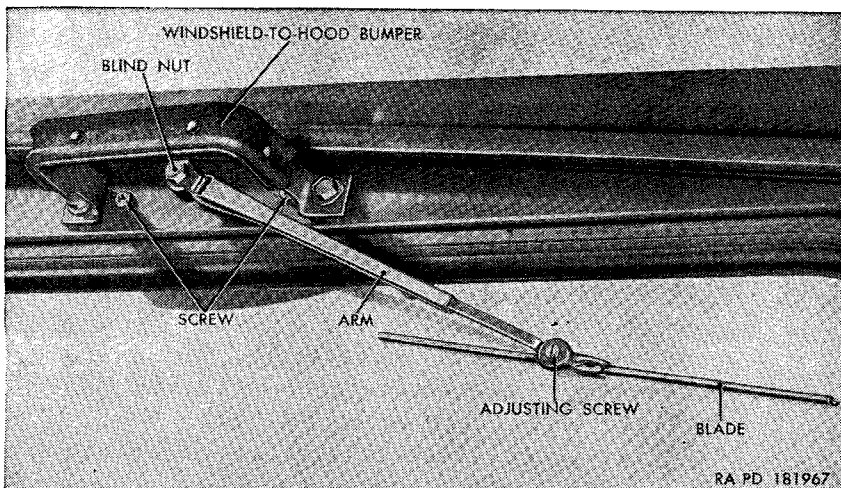

Figure 186. Windshield wiper blade and adjustable arm assemblies—installed.
a. *Windshield wiper blade assembly* (fig. 186).
- (1) *Removal.* Lift up on the windshield wiper adjustable arm assembly. Lift the lower end of the windshield wiper blade assembly to unlock the blade from the arm. Remove the blade.
- (2) *Installation.* Lift the windshield wiper adjustable arm up. Hook the windshield wiper blade, upside down into the arm, push the lower end of blade toward windshield, and lock blade in position. The position of the blade can be adjusted by loosening the adjusting screw at the end of the arm, setting blade in desired position, and tightening the screw.
b. *Windshield Wiper Adjustable Arm Assembly* (fig. 186).
- (1) *Removal.* Remove the windshield wiper blade assembly (a(1) above). Unscrew the blind nut securing the wind-
tee for left motor and windshield wiper-to-center line for right motor) (E and K) from the fitting on the windshield wiper vacuum motor assembly (F and L). Remove one lockwasher screw from the windshield-to-hood bumper assembly (fig. 186), loosen the other lockwasher screw, and let one end of the bumper drop to permit removal of the screws securing the motor. Remove the two internal-teeth lockwasher screws securing the motor to the windshield frame. Remove the two windshield wiper mounting spacers and remove the motor from the frame.
- (2) *Installation.* Working inside the vehicle, insert the serrated shaft of the paddle within the windshield wiper vacuum motor through the hole in the windshield frame. Slide the hose (windshield wiper-to-tee for left motor and windshield wiper-to-center line for right motor) (E and K) onto the fitting on the motor. Working outside the vehicle, insert two No. 10-32NF-2 x $\frac{7}{8}$ internal-teeth lockwasher screws into the windshield frame. From the inside of the windshield frame, insert one windshield wiper mounting spacer on each screw and screw into the motor. Secure the windshield-to-hood bumper (fig. 186) to the windshield frame with two $\frac{1}{2}$ x $\frac{1}{2}$ lockwasher screws. Install the windshield wiper adjustable arm (*b*(2) above). Install the windshield wiper blade (*a*(2) above). Start engine and check motor for proper operation.